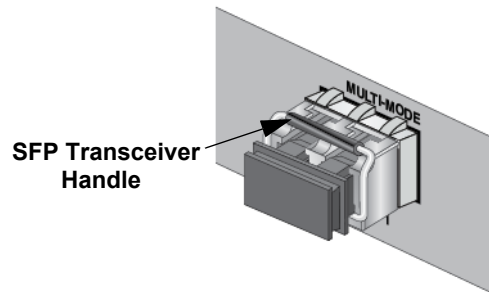

Figure 22. Positioning the SFP Handle in the Upright Position
- Verify that the handle on the transceiver is in the upright position, as shown in Figure 22. This secures the transceiver and prevents it from being dislodged from the slot.